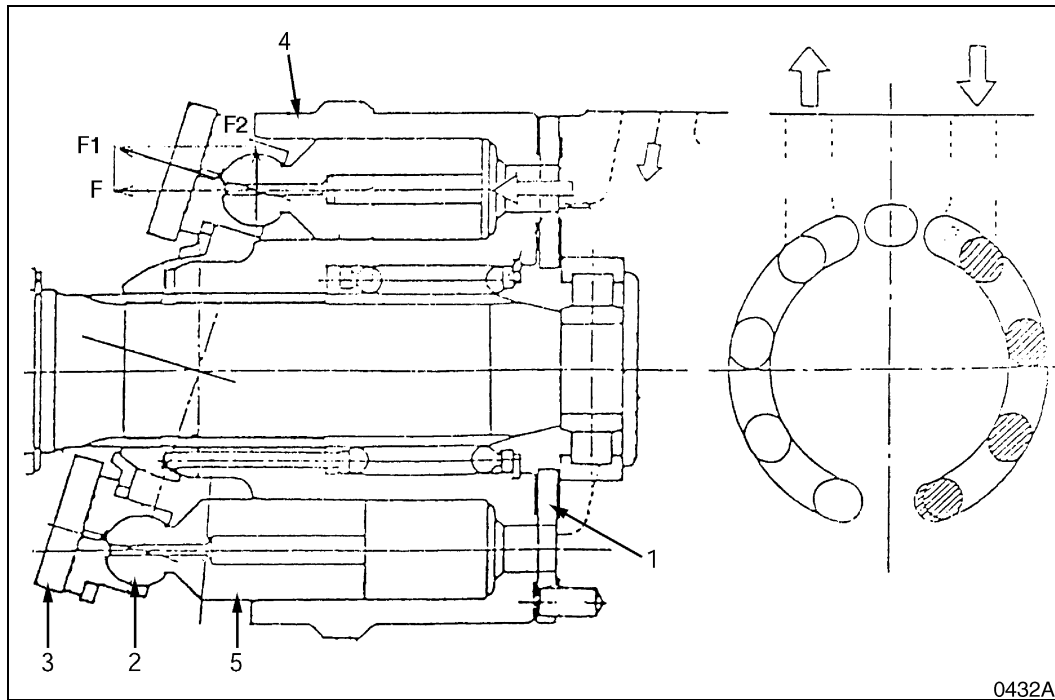

Figure 1
The cross sectional views of the swing motor, show most of the main components of an axial-piston type hydraulic motor. Arrows indicating direction of flow and other graphic symbols provide a general guide for understanding basic operation (Figure 1).
When high-pressure oil enters the cylinder through the inlet port of the valve plate (1, Figure 1), the sliding piston inside the cylinder is driven back, generating force “F” against the shoe behind the piston (2).
Force “F” acts in two different directions, as indicated by the arrows. Force F1 exerts pressure directly on the swash plate (3, Figure 1) to generate oil flow through the motor, while force F2 pushes laterally – at a right angle – against the drive shaft, providing the rotational energy to turn the cylinder block around the drive shaft.